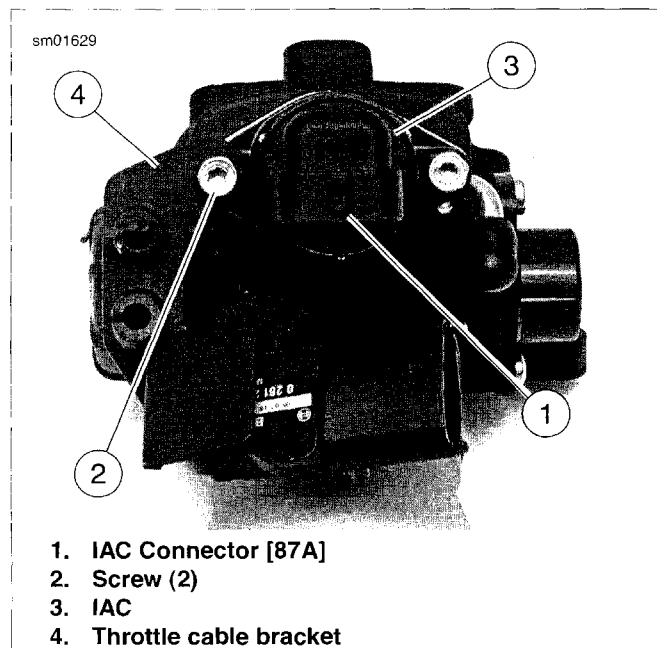

Figure 4-56. IAC Removal/Installation (XL Models)
3. See Figure 4-56. Unplug harness connector [87B] from IAC connector [87A] (1).
4. Note orientation and position of IAC, shown in Figure 4-56. Rotate IAC approximately 45 degrees clockwise from this position (see Figure 4-57.) so IAC mounting tab will clear throttle cable bracket (4) when IAC is installed.
7. See Figure 4-56. Apply a drop of Loctite Threadlocker and Sealant 243 (blue) the threads of each screw (2).
8. Install two screws (2). Using a six-point socket (not a Torx wrench), tighten to 60 **in-lbs** (6.8 Nm).
9. Plug harness connector [87B] into IAC connector [87A] (1).